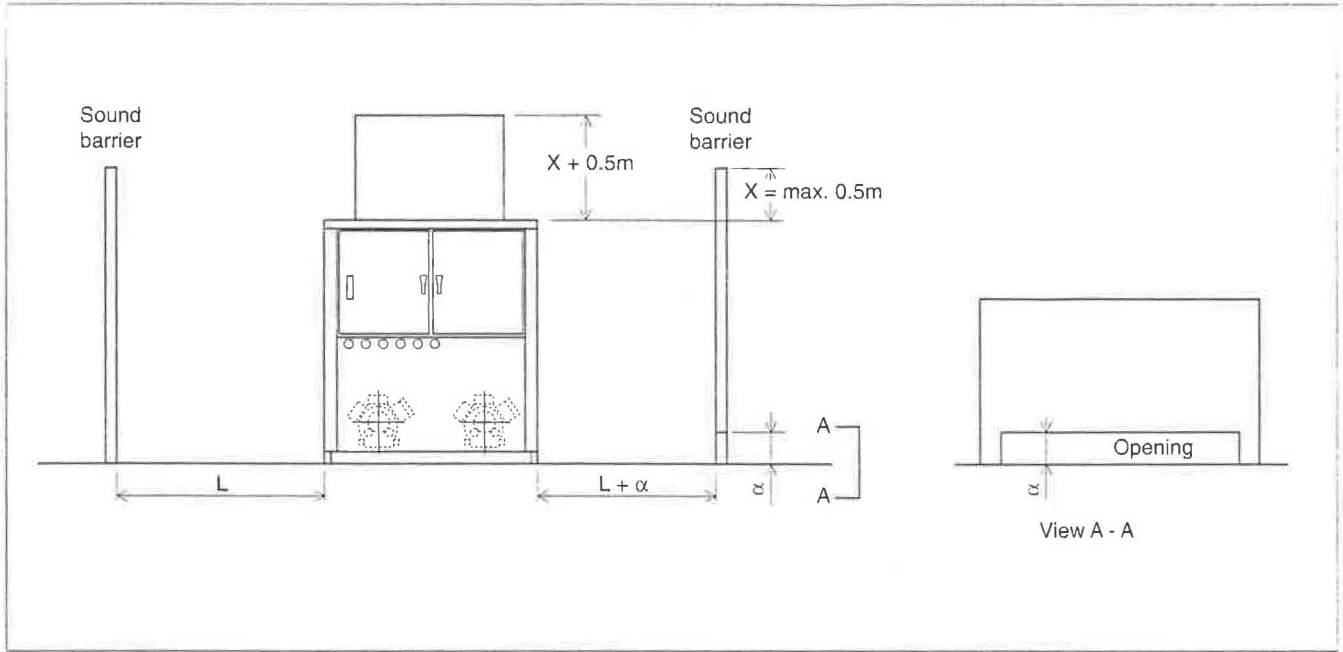

Figure 1: Air Flow Space.
Many situations require sound barriers around an outdoor heat pump unit to prevent noise problems. When erecting sound barriers, consideration must be given to providing sufficient air flow space around the unit (see Figure 1). Insufficient air flow to the unit causes major problems. Compressor failures can occur due to extremely low suction pressures in the heating cycle causing excessive superheating of the refrigerant vapour and reducing the motor cooling effect. Table 1 gives the minimum recommended distance (L) between a typical air-to-water heat pump and sound barriers with effective openings.
The maximum height of the barrier or fence is shown in Figure 1. If distance "L" is not available between the unit and the barrier, the shortage ( $\alpha$ ) should be compensated by providing an opening on the lower part of the fence (see Figure 1).